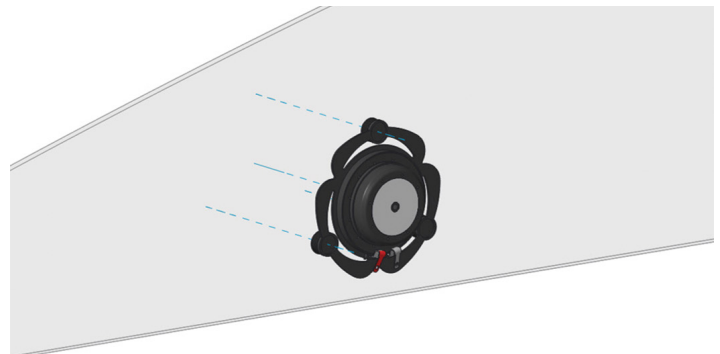

Fig.3
5. Slowly move the Exciter into position against the glass, making sure there is even contact (Fig.3).